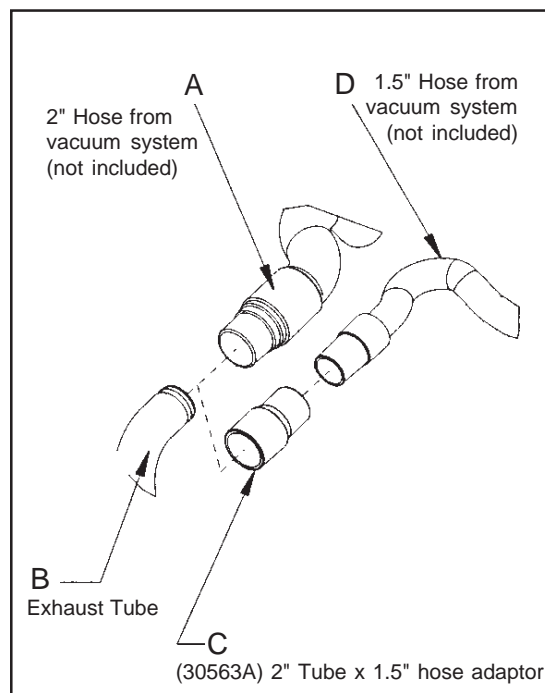

Figure 1
1. Install 2" hose end (figure 1, A) directly over the exhaust tube (figure 1, B).
1. Install the 2" x 1 ½" hose end adaptor (Part No. 30563A) (figure 1, C) over the exhaust tube (figure 1, B).
2. Insert 1 ½" hose end (figure 1, D) into the adaptor (figure 1, C).